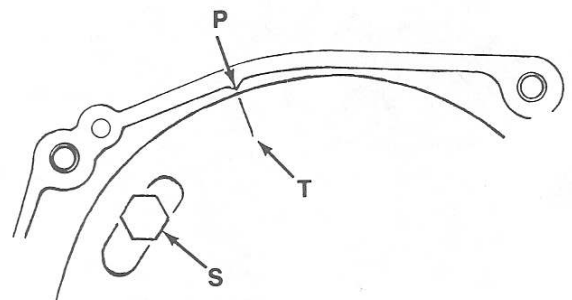
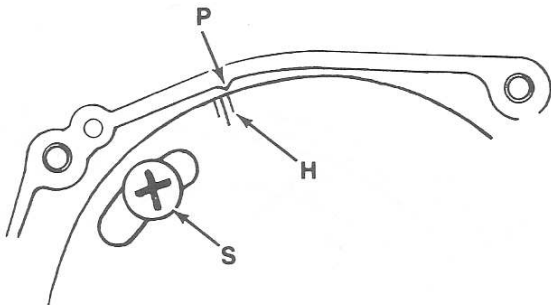

Fig. K10-18—On A1 and A2 models, magneto base plate timing mark (T) should align with crankcase pointer (P). Loosen two screws (S) to adjust.
Fig. K10-19—On B1 and B2 models, right-hand magneto base plate timing mark (H) should align with crankcase pointer (P). Loosen two screws (S) to adjust.
On A1 and A2 models, the center timing mark (C—Fig. K10-17) should align with crankcase pointer (P). On B1 and B2 models, the right-hand timing mark (R) should align with crankcase pointer (P). If not, remove flywheel retaining cap screw and use a suitable puller to withdraw flywheel. Note timing marks on magneto base plate. On A1 and A2 models, the one magneto base plate timing mark (T—Fig. K10-18) should align with crankcase pointer (P). On B1 and B2 models, the right-hand magneto base plate timing mark (H—Fig. K10-19) should align with crankcase pointer (P). Loosen the two magneto plate mounting screws (S—Fig. K10-18 and K10-19) to adjust. Tighten flywheel retaining cap screw to 22 N·m (16 ft.-lbs.).